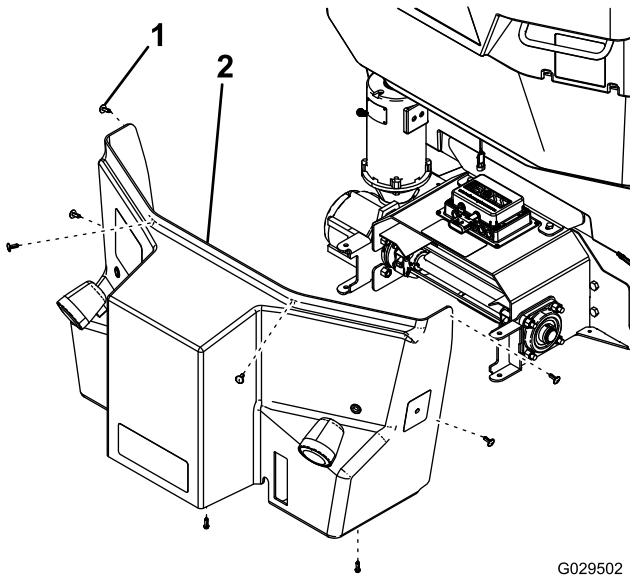
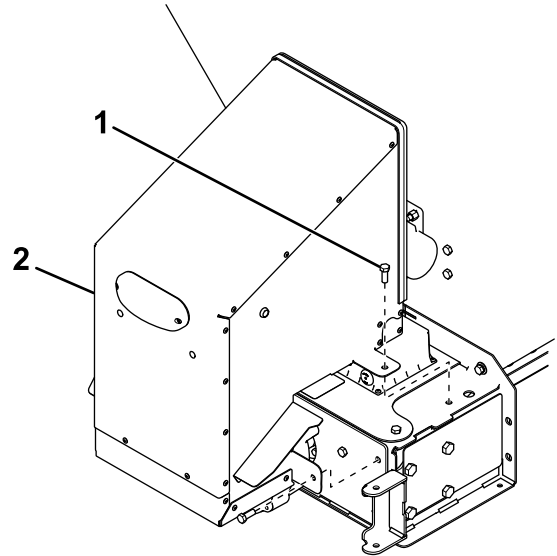

Figure 1
Figure 2
2. Remove the rear cover from the hopper (Figure 1 and Figure 2).